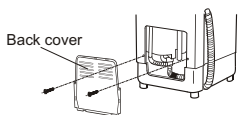

Figure 1
1. Loosen the fastening screw of the back cover to take off the back cover. Be careful not to do it by force to prevent breaking the claw of the back cover. (as indicated in Figure 1)